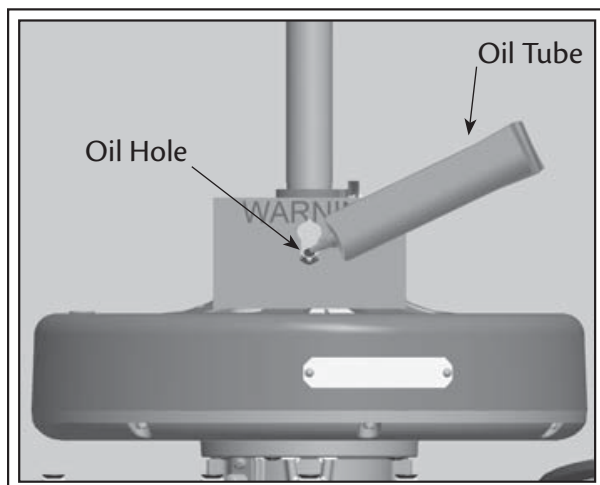

Fig. 12
4. Cut the tip off the end of the tube and place the tube into the oil hole (see. Fig. 12).